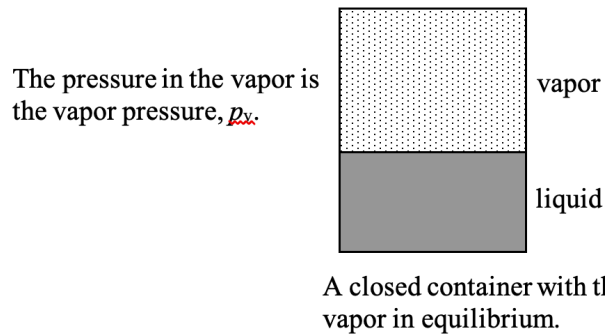

FIGURE 1.12. Illustration of liquid and vapor in equilibrium in a closed container. The pressure in the vapor is p_v .
- The vapor pressure, p_v , of a liquid is the pressure at which the liquid is in equilibrium with its own vapor (Figure 1.12).